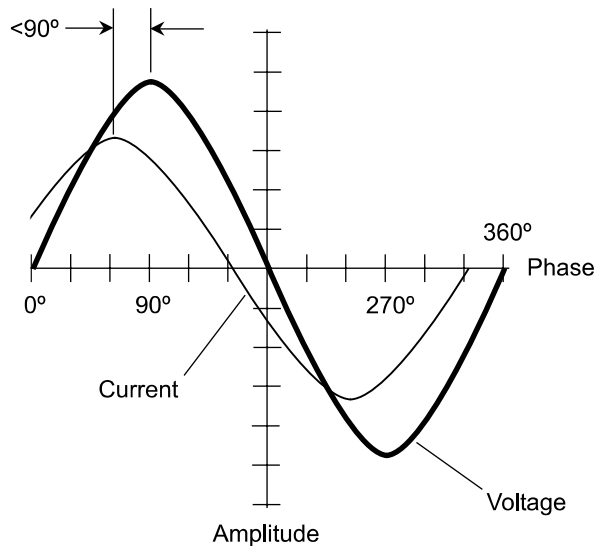

Fig. 3-13. In an RC circuit, the current leads the voltage by some phase angle greater than 90° but less than 90° .
When the resistance in a *resistance-capacitance* (RC) circuit is significant compared with the capacitive reactance, the current leads the voltage by something less than 90° (Fig. 3-13). If R is small compared with X_C ,